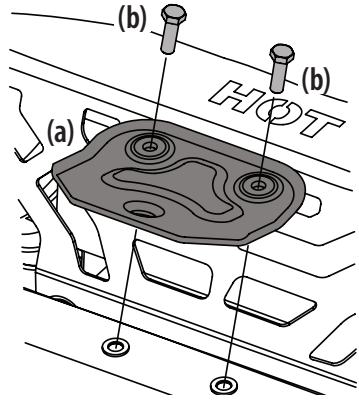

Figure 3
1. Locate hitch (a) and install on the rear of the frame using the two hex washer screws (b) provided. See Figure 3.